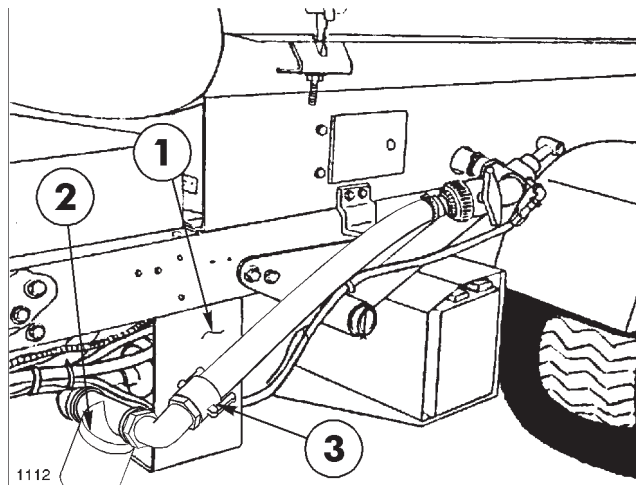

**FIG. 3**
8. At the Hydraulic Control Valve, loosen and disconnect the fittings for two R.H. Dump Cylinder Hoses. Reroute these hoses to the underside of the Pump Suction Hose. Reconnect and tighten fittings. Secure all hoses and cables with tie straps to ensure they do not rub against pump pulleys and belts. See FIG. 3.